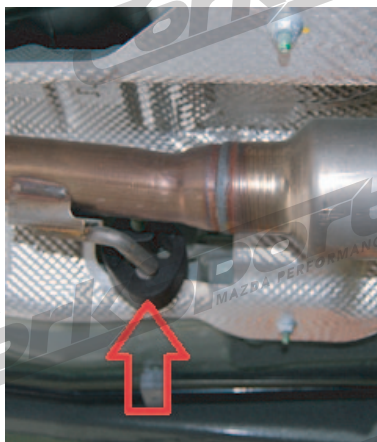

Figure 1E
E) While supporting the mid pipe section, remove the final exhaust hanger shown in Figure 1E by the red arrow.
D) Install the midpipe section of the exhaust in to the vehicle by inserting the one (1) hanger post in to the stock rubber hanger (shown by the **red arrow** in **Figure 1E**) and connecting the midpipe to the muffler section.